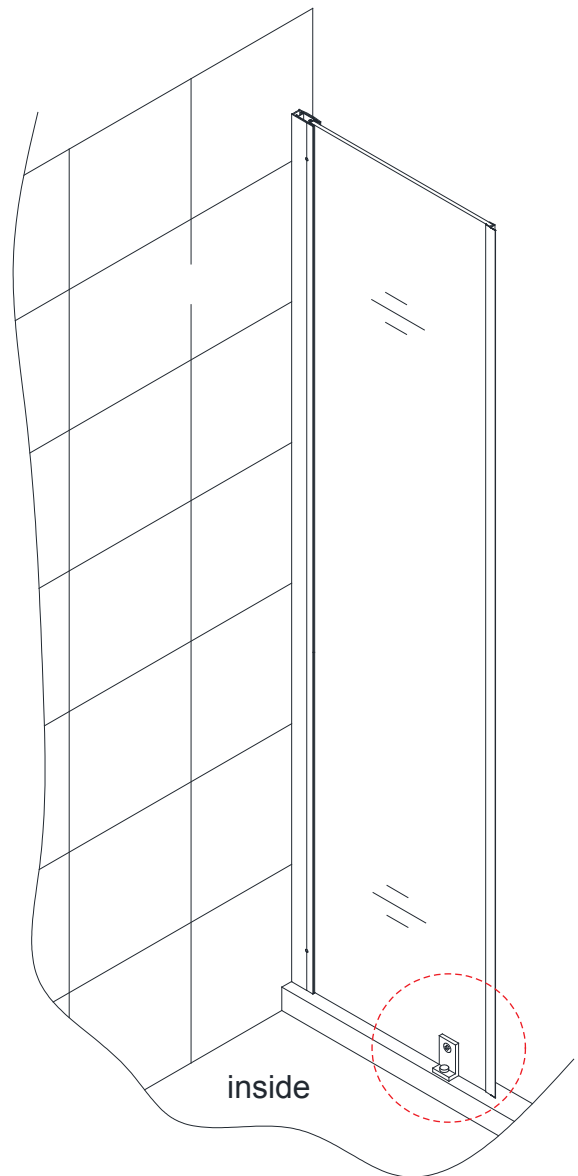

Fig 7b
** Use an **Ø1/8"** drill bit for installation into an acrylic base OR use a **Ø5/16"** drill bit and an anchor for installation into a tile threshold. Use the **Pan Head Screw ST4.2x35 (#16)** along with a raised white washer to attach the **Bottom Bracket (#18)** to the threshold and snap on the **Decorative Screw Cover (#17)**. (Fig 7a and Fig 7b)